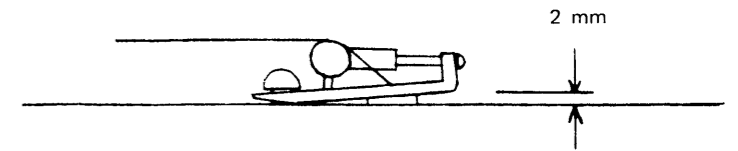

Fig. 5
7. Adjust tension springs ① for 2mm clearance between bottom of the tailpiece and guitar face at the back end with screws ② (See Fig. 5.)
Back to steps 2-5, this time in combination with step 7. Repeat tuning and measure clearance between tailpiece bottom and guitar top, (Fig. 5). Readjust spring ① tensions as necessary.
9. STRING HEIGHT With strings open adjust screws⑥ to the height in the table below.